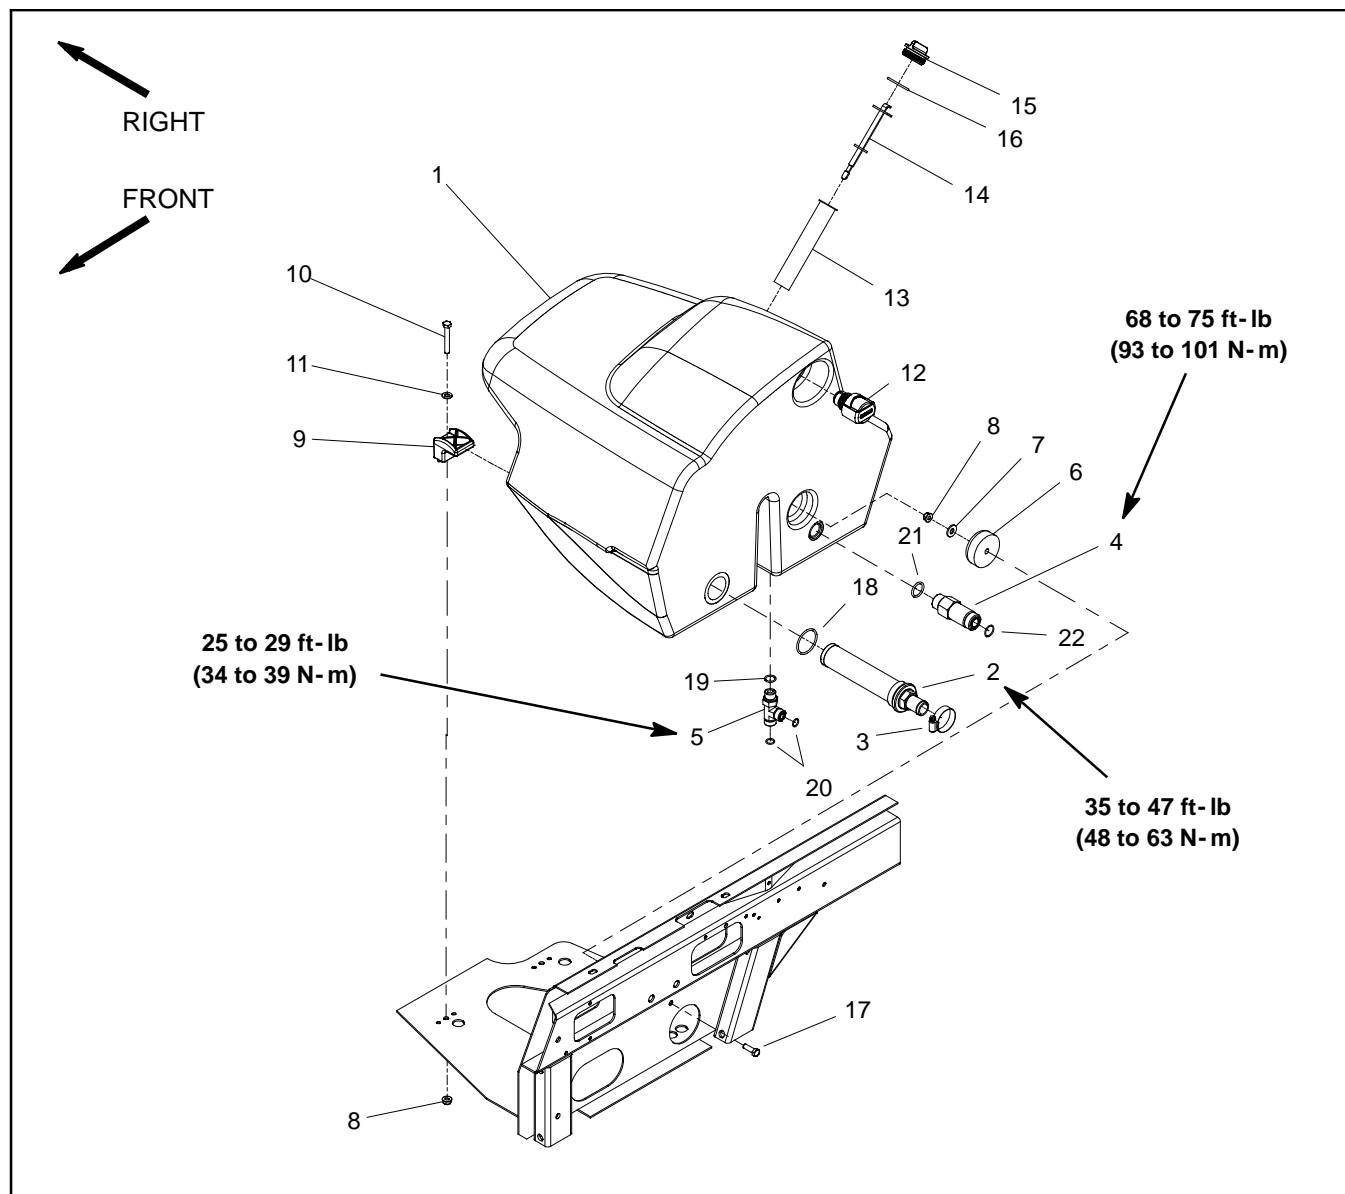

Figure 99
Removal (Fig. 99)
6. Remove hydraulic reservoir using Figure 99 as a guide.
Installation (Fig. 99)
1. If fittings were removed from reservoir, lubricate and place new O-rings onto fittings. Install fittings into reservoir openings using marks made during the removal process to properly orientate fittings. Torque fittings to values identified in Figure 99.
2. Install reservoir using Figure 99 as a guide.